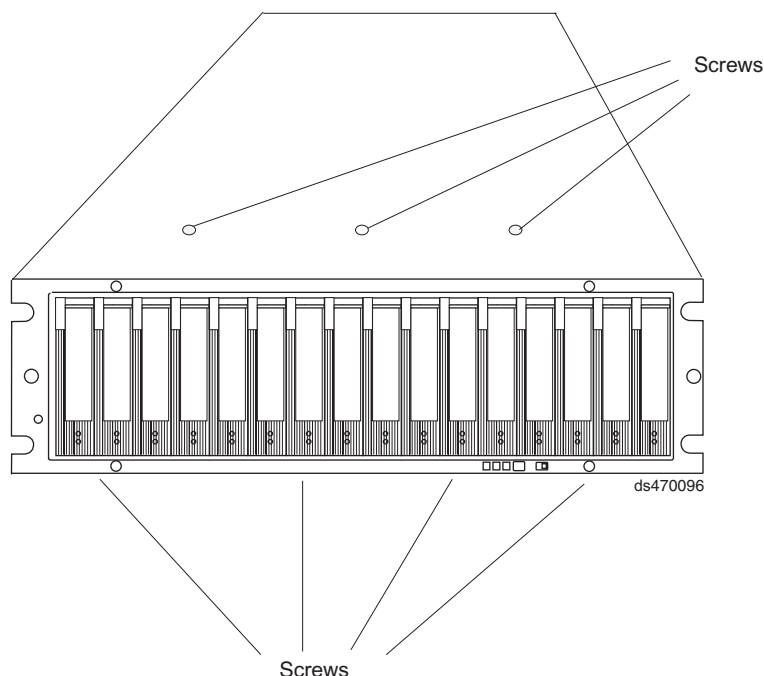

Figure 40. Screws holding the top and bottom sides of the chassis to the cage frame
13. Pull the chassis outward from the front of the rack and remove from the rack. Place it on a level surface. Look for a row of three Phillips screws on top of the chassis and a row of four Phillips screws on the bottom of the chassis, as shown in Figure 40 on page 90. Remove the seven Phillips screws using the #1 Phillips screwdriver. Save these screws.
18. Install the seven Phillips screws (three on top and four on bottom) that hold the front cage frame to the EXP395 chassis that you removed in step 13 on page 89, as shown in Figure 40.